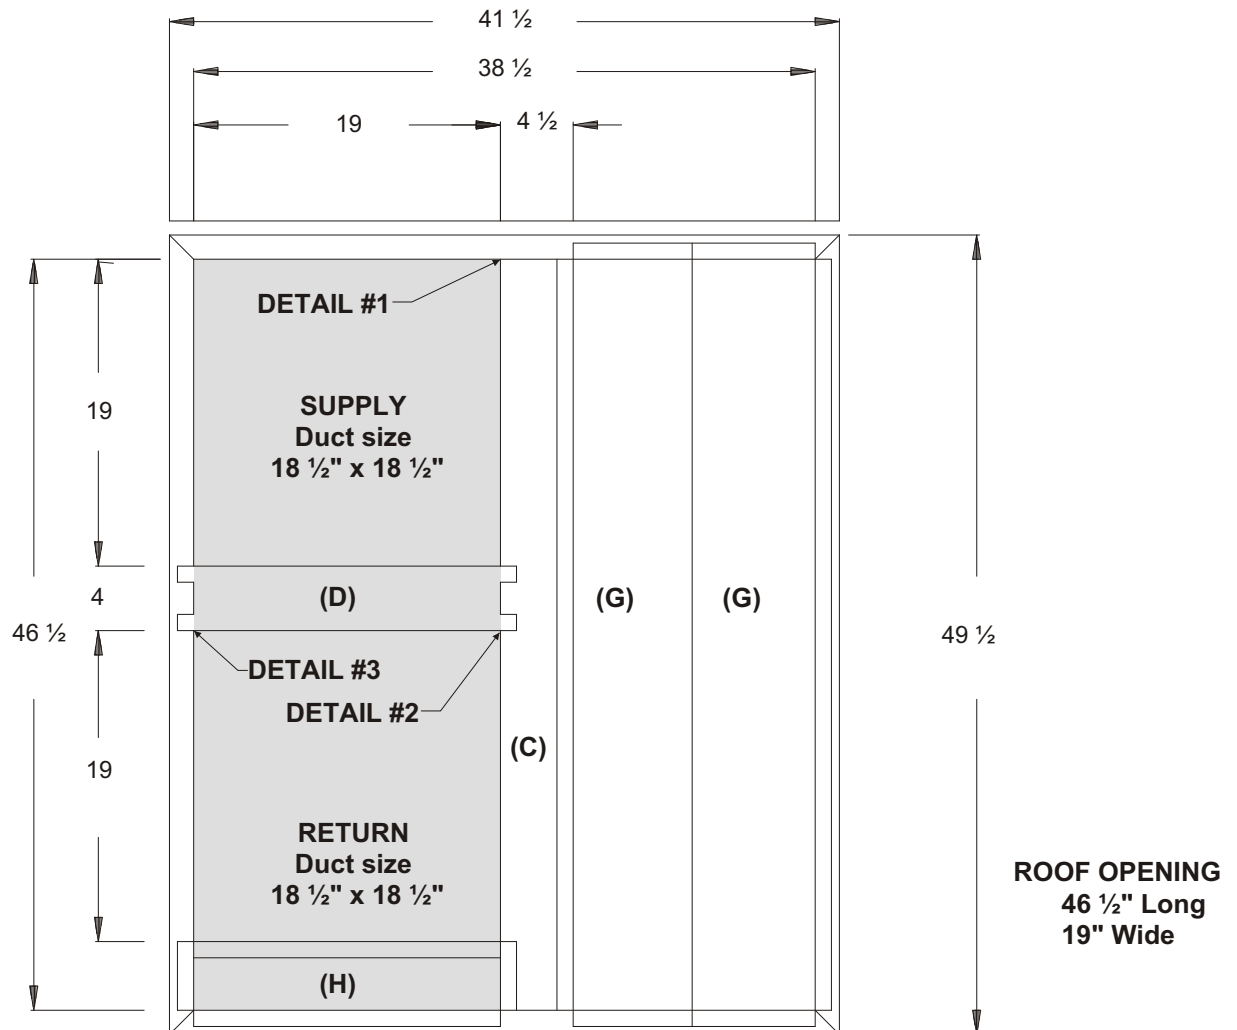

Figure 7
Install the duct horizontal support (C) as shown with opening over the desired duct location as shown in Figure 7.
Install the vertical duct support (D) as shown in Figure 7.
Install the insulated pans (G) and (H) as shown in Figure 7.
Figure 7 is shown without parts (E) and (F)